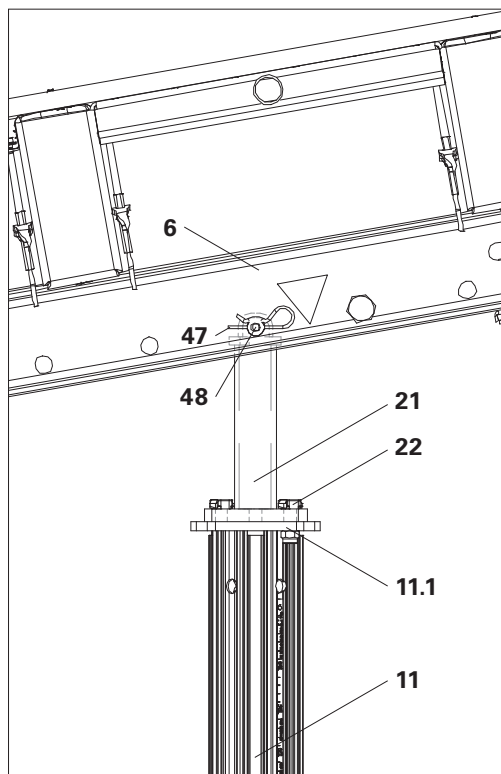

Fig. B1.20
The Compression Brace Head MP/SRU is used for supporting inclined-positioned slab tables. (Fig. B1.20)
1. Secure Compression Brace Head MP/SRU (21) diagonally on the end plate (11.1) of the MULTIPROP MP (11) by means of 2x MULTIPROP bolts with nuts (22). (Fig. B1.20)
2. Spindle out MULTIPROP MP (11) to required length.
3. Mount Compression Brace Head MP/SRU on the Steel Waler SRU U120 (6) using Fitting Pin $\varnothing 21 \times 120$ (48) and secure with Cotter Pin 4/1 (47).